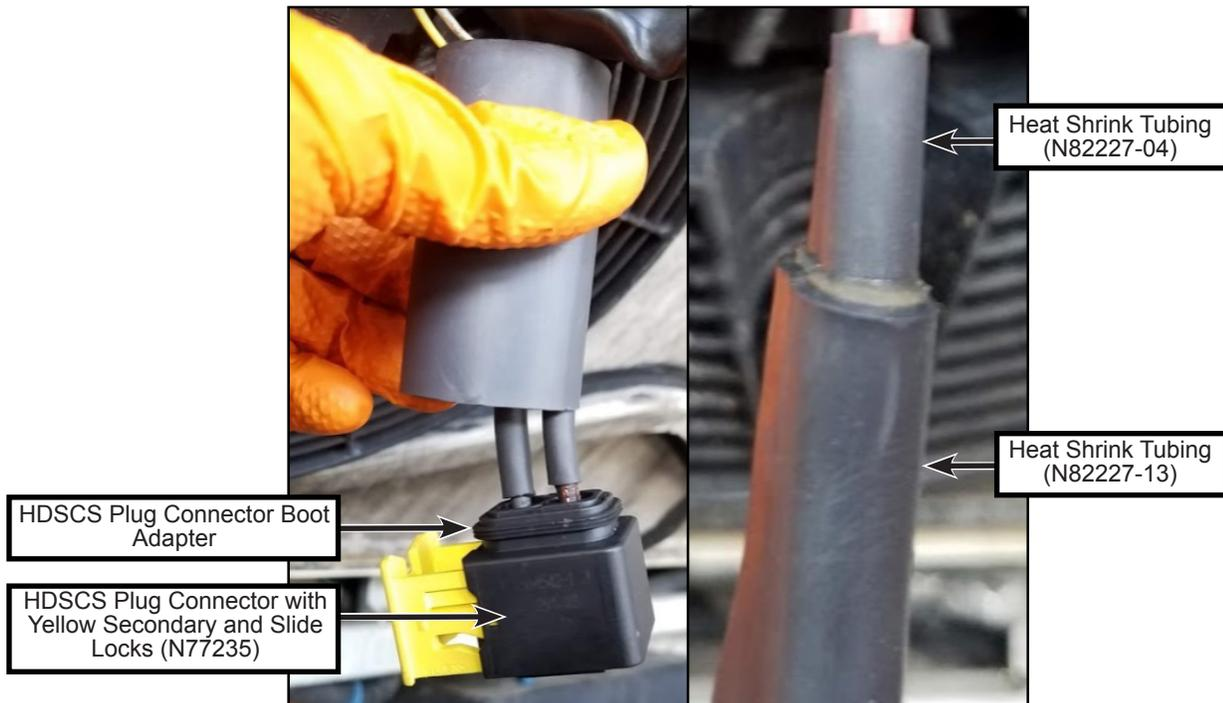

Figure 7 - Heat Shrink Tubing Installation on HDSCS Plug Connector Wiring at Fan Side
- 1.14. Insert the RED wire terminal into position 1 and the BLACK wire terminal into position 2 of the HDSCS plug connector PN N77235 (see figure 7). Make sure that the yellow secondary lock of the plug connector is completely pressed (to move it from the unlocked to the locked position) after inserting both terminals. Refer to Annex 2 for detailed instructions about terminals insertion and secondary lock.
- 1.15. Using a heat gun, apply the large heat shrink tubing PN N82227-13 starting from the boot adapter of HDSCS plug connector finishing directly over the smaller heat shrink tubes previously installed on the power wires (see figure 7). Make sure to fill any gap between the two power wires with the inner adhesive liner glue (do not apply heatshrink tubing over tape or loom).
- 1.21. Using a heat gun, apply the large heat shrink tubing PN N82227-13 starting from the boot adapter of HDSCS receptacle connector finishing directly over the smaller heat shrink tubes previously installed on the power wires (see figure 7). Make sure to fill any gap between the two power wires with the inner adhesive liner glue (do not apply heatshrink tubing over tape or loom).